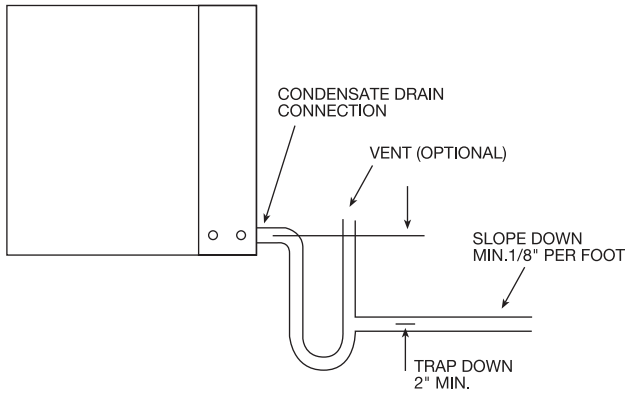

Fig. 5 — Condensate Trapping
Step 6 — Install Condensate Drain — A drain line must be connected to the heat pump and pitched away from the unit a minimum of 1/8-in. per foot to allow the condensate to flow away from the unit. (See Fig. 5.)